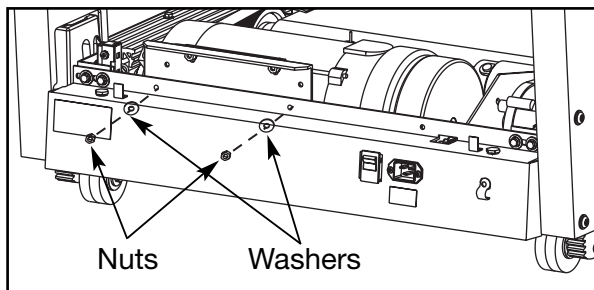

Figure 5
- A. Loosen the two nuts and two washers on the drive motor mounting plate. See Figure 5. This will loosen the drive motor assembly and drive belt.
- B. Attach the two washers and two nuts on the drive motor mounting plate. See Figure 5. This will tighten the drive motor assembly and drive belt. **NOTE:** *A drive belt that is too loose may squeal and you may be able to see it slip when you walk on the running belt.*